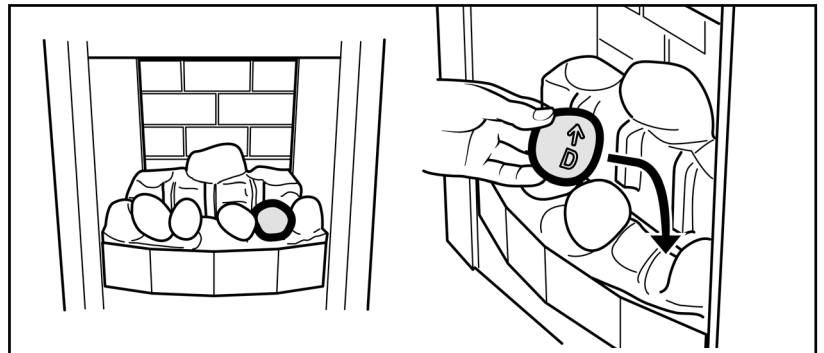

Figure 24.
7. Hold pebble 'D' upright with the arrow pointing to the top. Place pebble "D" on top of the base front pebble. It should rest against the moulded pebble to its right. (See figure 24).